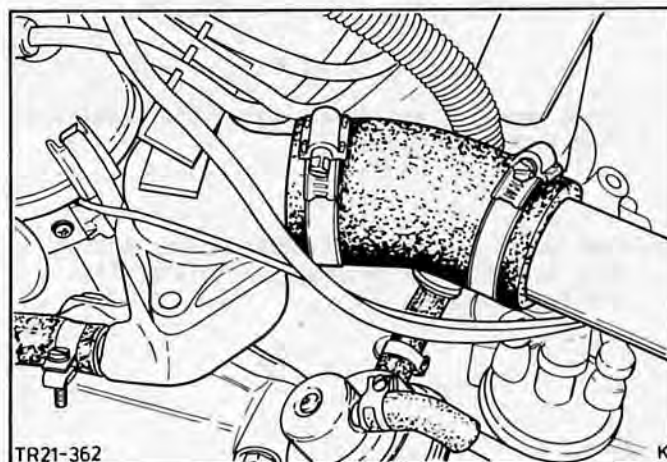

Fig.114. Fit top radiator hose.
27. Connect up top and bottom radiator hoses and secure hose clips, Fig.114. Fill with coolant.